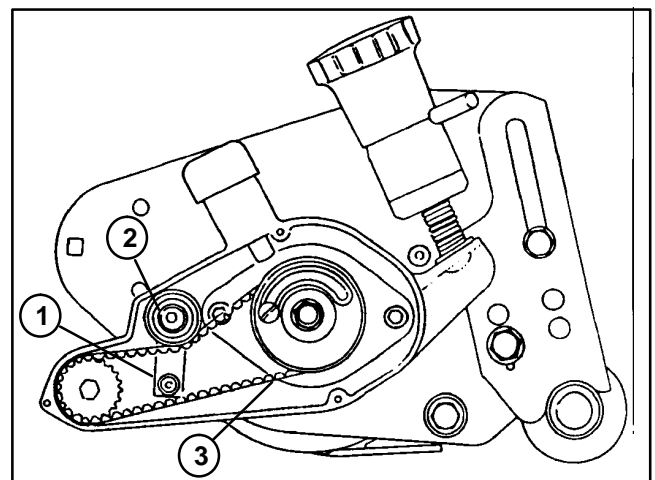

Figure 14
4. Loosen socket head cap screw on the idler block. Pivot idler to loosen drive belt and remove belt (Fig. 14).
4. Loosen socket head cap screw on idler block. Pivot idler to loosen drive belt and remove belt (Fig. 14).
4. Hold drive belt on the driver pulley and slide clutch onto the clutch adapter shaft while sliding the belt onto the driven pulley (Fig. 14).
6. Tension drive belt (see Drive Belt Tension in the Adjustments section) and tighten socket head cap screw (Fig. 14).